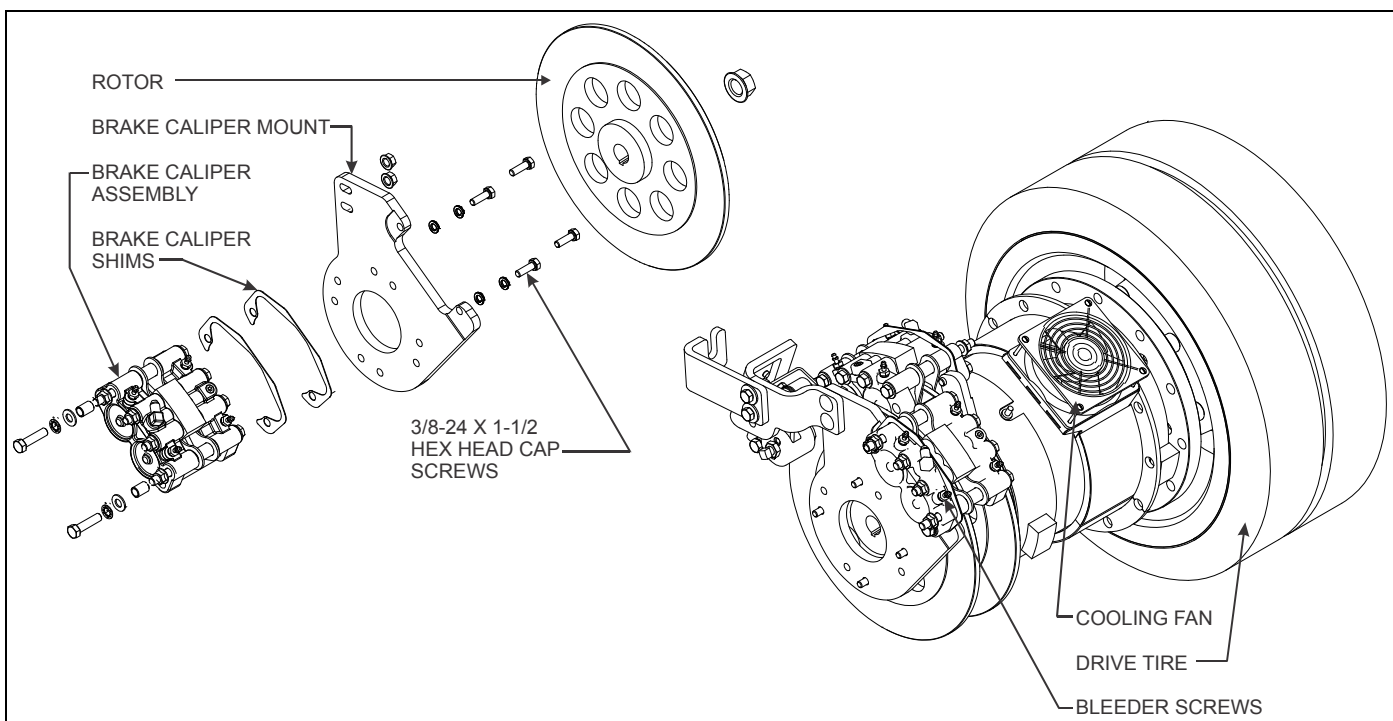

Figure 3-10: Disc Brake Assembly Overview
7. Remove the 3/8 X 24 X 1-1/2 hex headed cap screws securing the brake caliper assembly to its mounting plate (See Figure 3-10). Capture the spacers within the mounting holes and keep any shims separate for each side.
9. Remove the two outer hex head screws and hardware to allow pads to be removed from caliper assembly (See Figure 3-10).
16. Install the brake caliper assembly to its brake caliper mount (See Figure 3-10). Ensure correct number of shims are installed between caliper and mount. Pads should have the same clearance from the disk prior to actuation of brakes.